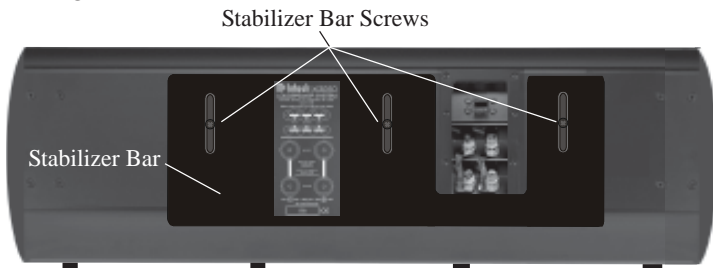

Figure 9
8. Loosen, but do not remove, the three screws securing the Stabilizer Bar to the back of the XCS350. Refer to figure 9.